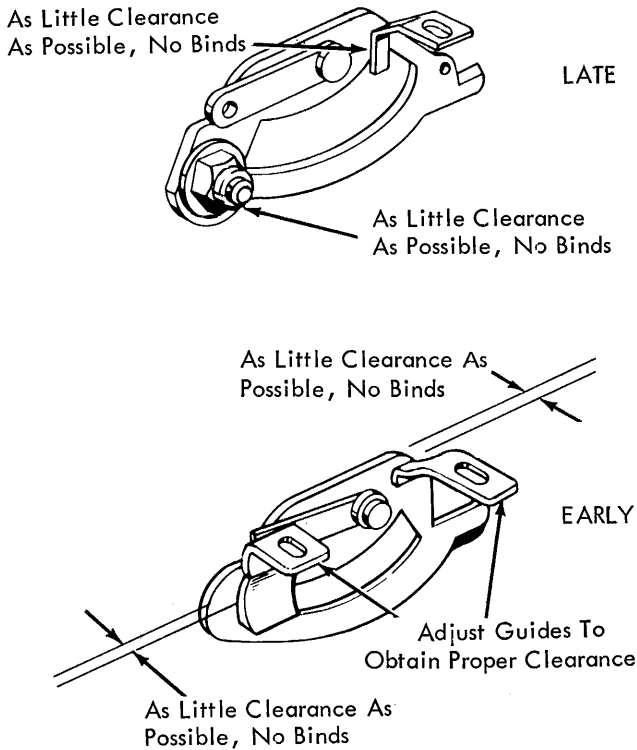

FIGURE 97. Rotate Detent Guides
6. Rotate Detent - Adjust the front and rear guides so that the rotate detent will operate freely with no side play (Fig. 97).